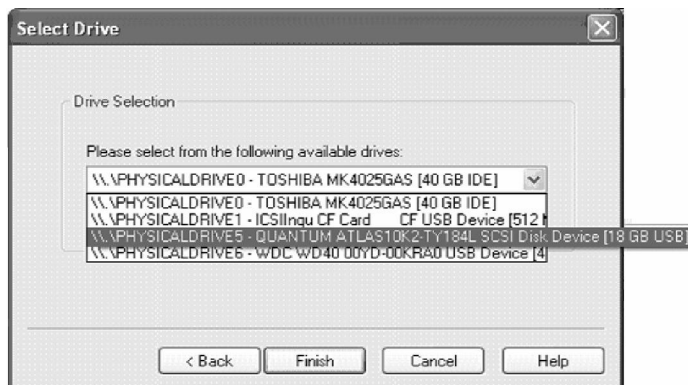

Figure 19 – Select Source Drive
11. The next prompt will ask for the Source Drive. Choose the SCSI drive from the drop-down list. See Figure 19 below for an example.